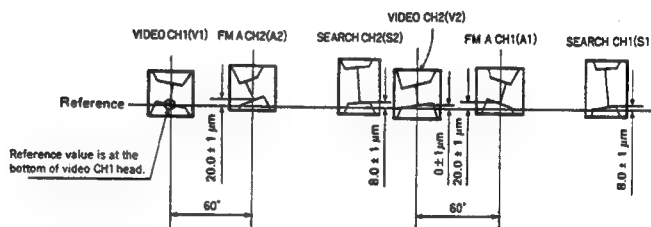

Fig. 2-61
4. Confirm the value of each head with respect to Fig. 2-61. If out of specification, it is necessary to adjust the relative head height.
- 2) Using the head height adjusting setscrews, adjust other heads so that each of them has the correlative height to the reference height (the lowest head height) as shown in Fig. 2-61.